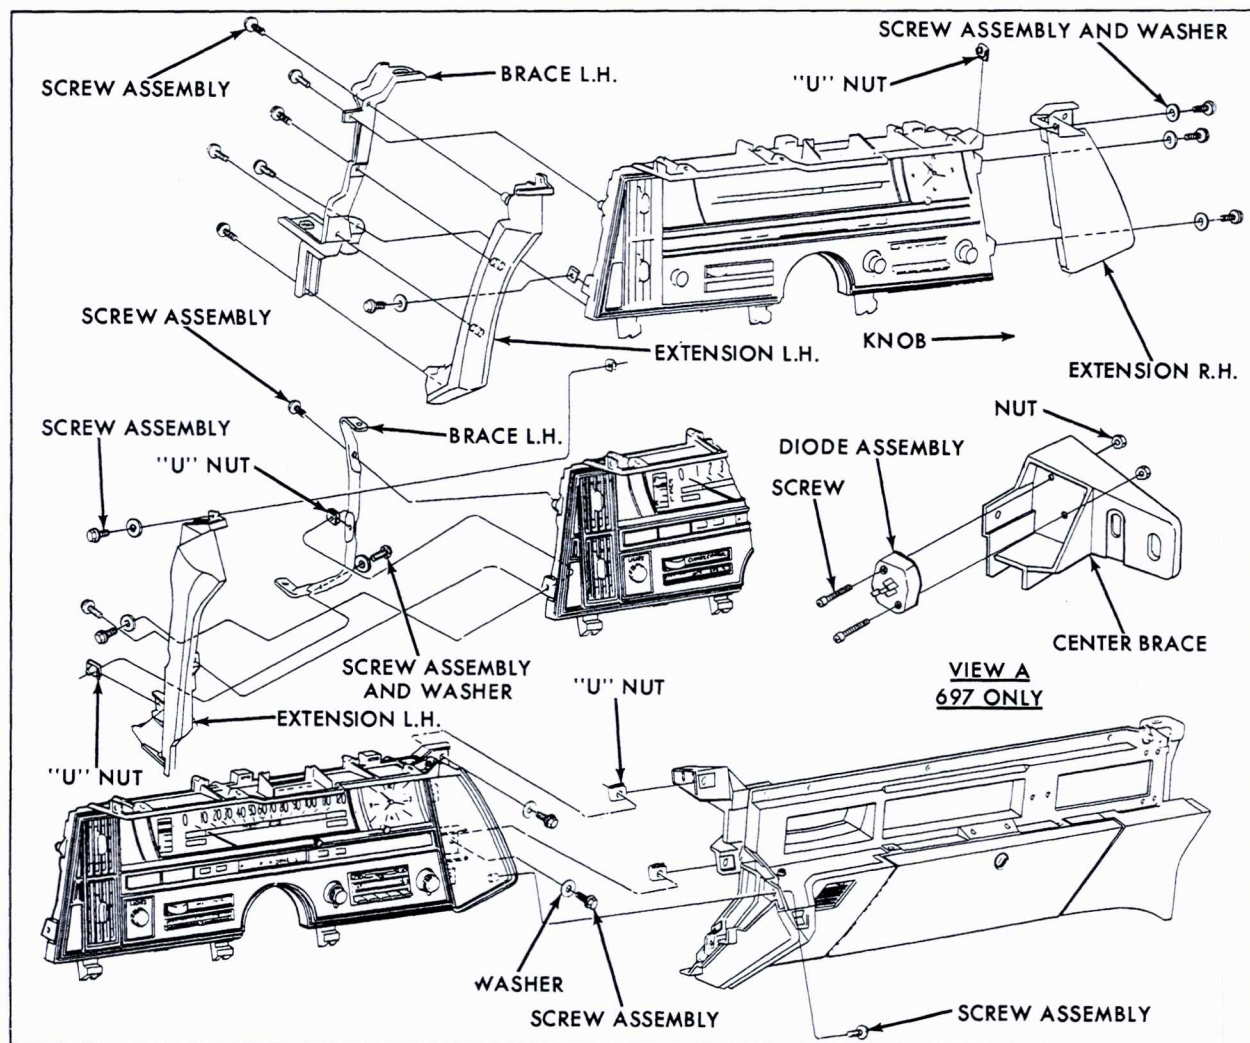

Fig. 12-40 Instrument Panel - (Bezel)
## 47. Instrument Panel Bezel Assembly (Fig. 12-40)
11. Remove the following screws, Fig. 12-40:
1. Place bezel assembly in position, and loosely install the following screws, Fig. 12-40:
**48. Instrument Panel Bezel (Center Section) (Fig. 12-40)****a. Removal**
**49. Instrument Panel Bezel Extension (Left Side) (Fig. 12-40)****a. Removal**
**50. Instrument Panel Bezel Extension (Right Side) (Fig. 12-40)****a. Removal**